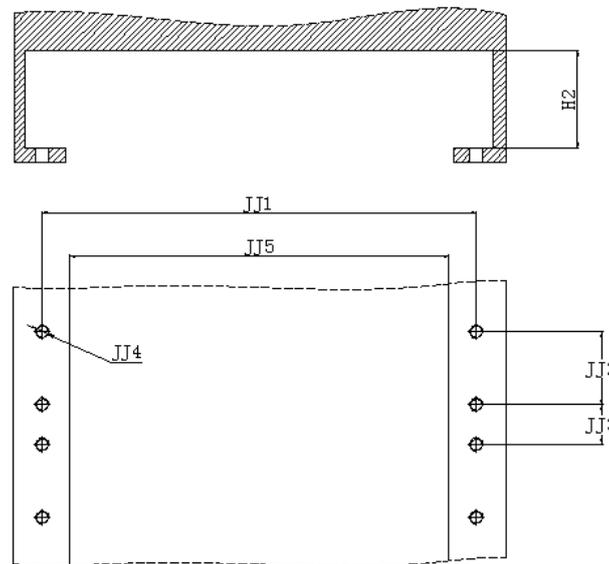

Figure 2 - Mounting holes on the luminaire to install LED module
1.2.1 Mounting dimensions between luminaire and LED module(s) are shown in figure 2 and table 2.
NOTE: Figure 2 and Table 2 show dimensions to install a LED module.